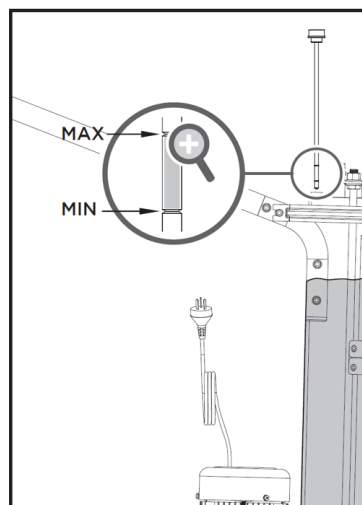

Fig. 16d
6. Check that the hydraulic oil level is between the Max and Min marks on the dipstick. Refer to Fig. 16d.